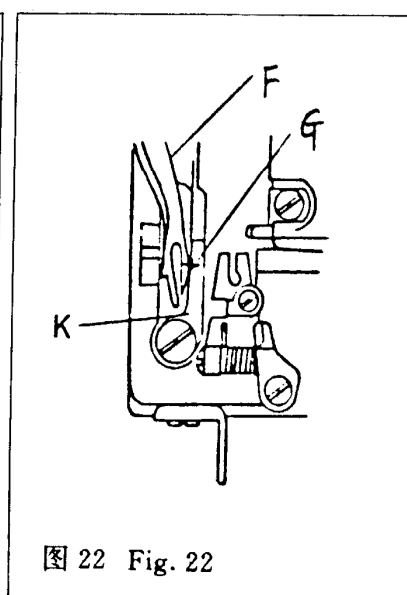

图 22 Fig. 22
- ② 转动手轮，检查钩线叉“F”运动到机针护板“K”的最近点“G”时是否相碰(图 22)，如果相碰必须将偏心支承套向左作微量调整。
- ② Turn handwheel to make the pronged thread hook "F" move towards the nearest point "G" on needle guard "K" (Fig. 22), if "F" comes into contact with "G", fine-adjustment of the eccentric supporting sleeve shall be made.